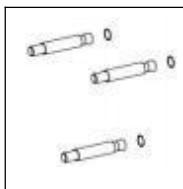

Fig.2.
- 2). Insert the included three Expansion Bolt (1) into the drilled mounting holes. You may need to use a hammer to secure them through the holes. See the(Fig.2.)